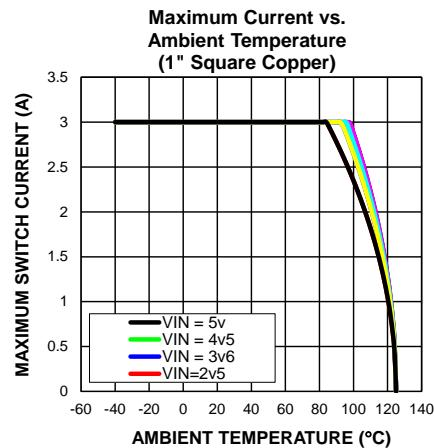

Figure 3. Safe Operating Area (SOA) Graph
**Figure 3** illustrates the SOA for various input voltages, with the package mounted on a typical 1 layer, 1 square inch copper board.